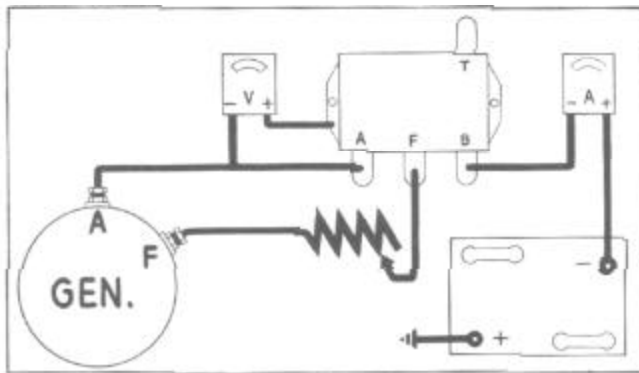

FIGURE 13
1. Disconnect wires from the "B" terminal of the voltage regulator and connect a reliable ammeter between the terminal and the battery lead, Figure 13.